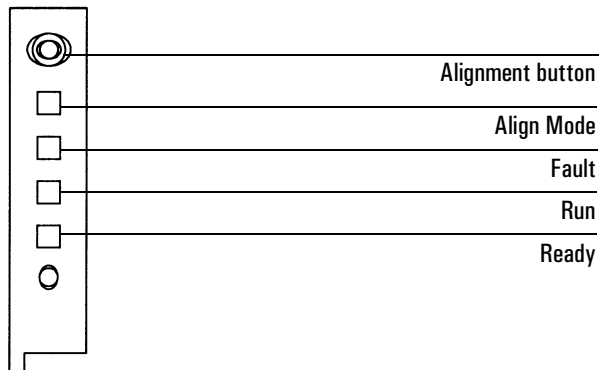

Figure 11 Aligning the turret
5. Use a pen to press the recessed alignment button above the indicator lights, then close the door. See Figure 11.